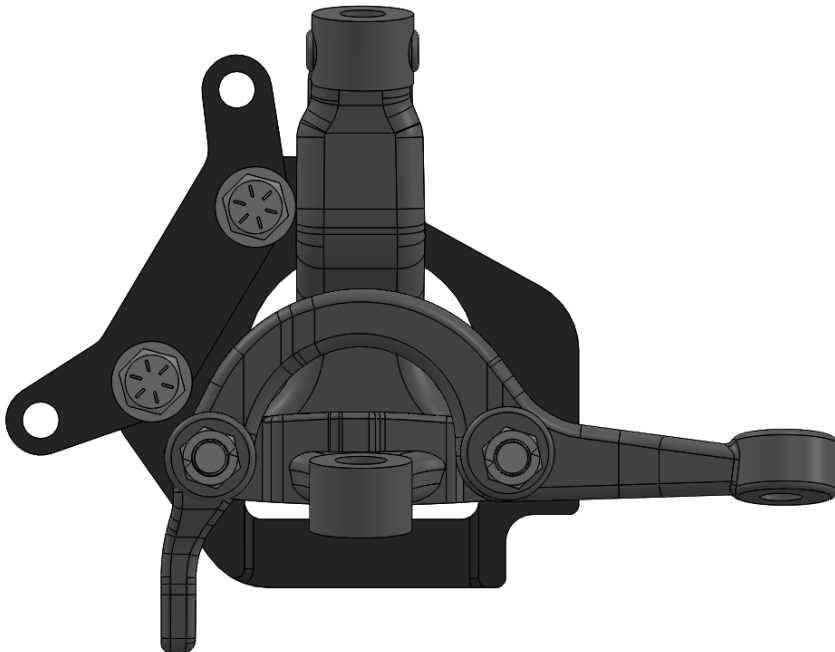

Figure 3. Intermediate bracket installed inboard view
7. Install the intermediate bracket to the inboard side of the base bracket using the supplied 9/16-12 bolts and washers. Simply tighten the bolts for now as they will likely require removal to shim the intermediate bracket during the shimming procedure. See Figures 3 and 4 below for reference. The intermediate bracket part numbers begin with either 661 for the left (driver side) or 662 for the right (passenger side) bracket.